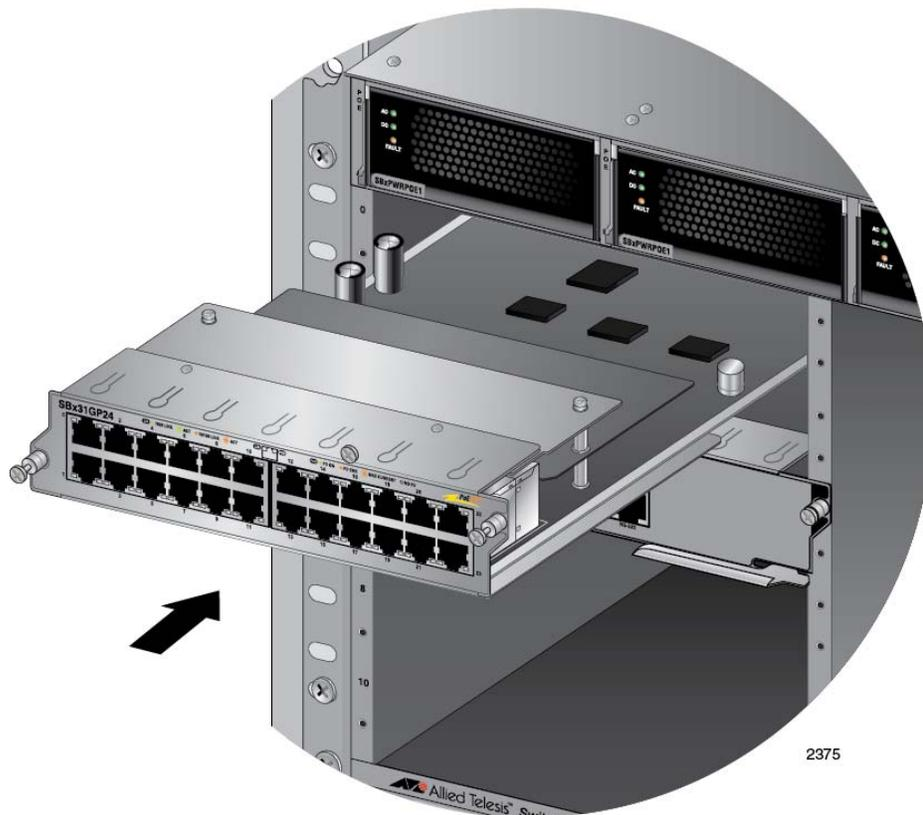

Figure 79. Inserting an Ethernet Line Card
4. Insert the line card into the slot, as shown in Figure 79 on page 122, until the faceplate is firmly seated against the chassis front panel.